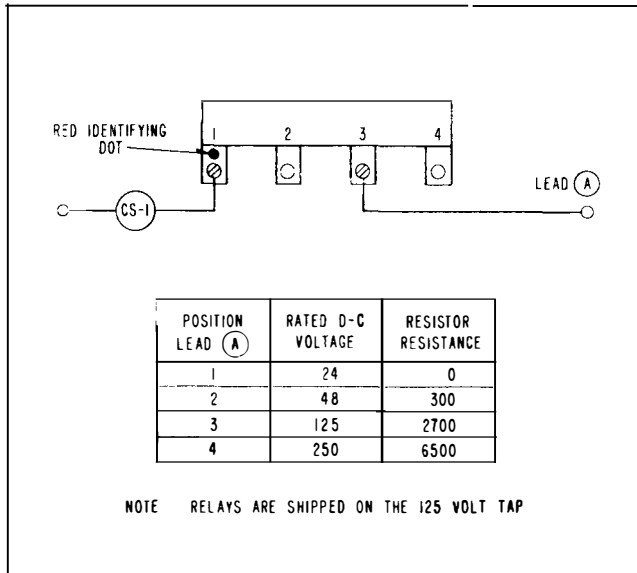

Fig. 6. Selection of Proper Voltage Tap for Auxiliary Switch (CS-1) Operation.
No setting required on the CS-1 unit except for the selection of the required 24, 48, 125 or 250 volt-amp on the tapped resistor. This connection can be made by referring to Fig. 6.
Connect lead (A) to proper terminal per Fig. 6. Block directional unit (D) and I contacts close and energize trip circuit with rated voltage. Contacts of